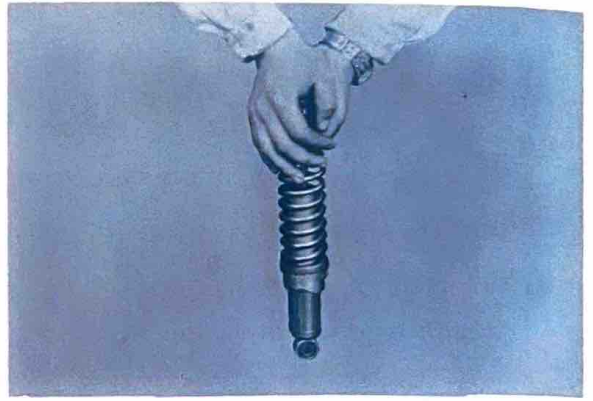

Fig. V-6-2
- 2) Compress the shocks by applying weight as shown in Fig. V-6-2, and release it.